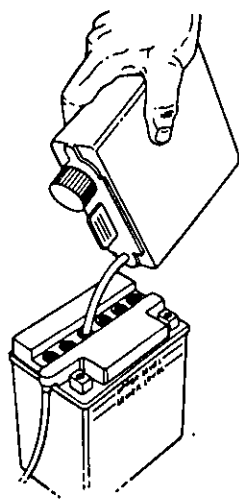

FIGURE 9.
5. Fill each battery cell slowly and carefully to the UPPER LEVEL line marked on battery. See figure 9. Use caution as the acid level will rise rapidly after the bottom of the cell is filled. ←